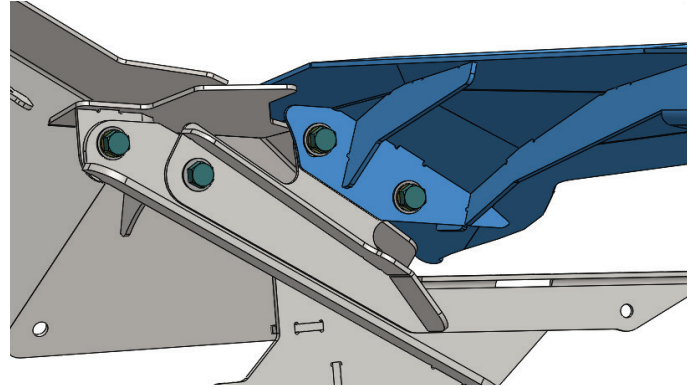

Figure 26
15. Check for symmetry of the visor and both arms. Using a 7/32" Allen Wrench, fully tighten the six (6) 3/8" stainless steel button head screws with rubber washers.
17. Loosely install the four (4) 3/8"-16 bolts, flat washers and lock washers into the Cowl on both passenger and driver side. (Figure 26)